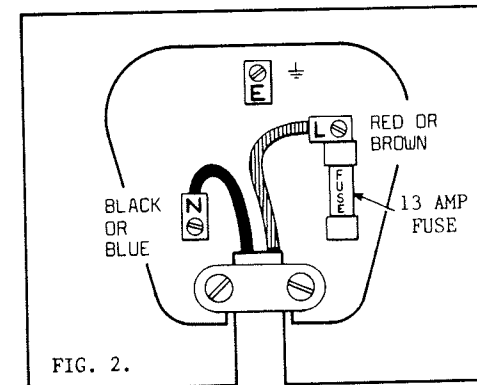

FIG. 2.
It is IMPORTANT that the plug be connected as shown in Fig.2. and is fitted with a 13A fuse.
- 2) Is the plug connected correctly to mower supply cable? Check with reference to Fig.2.